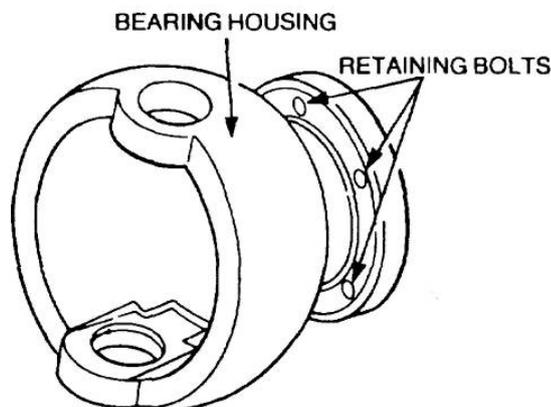

Figure 271 Removal of the Bearing Housing
- i. Remove the six bolts retaining the bearing housing to the axle case (Figure 271).